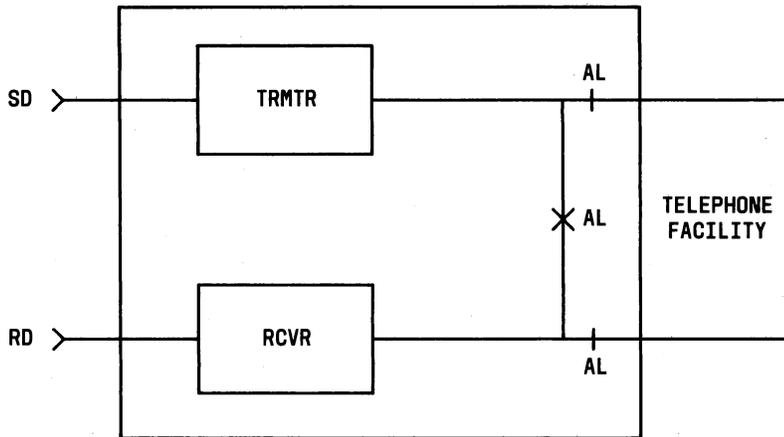

Fig. 25—Local Loopback Test
3.78 In test LL (Fig. 25) the output of the transmitter is looped to the input of the receiver through an attenuator. The data set is internally disconnected from the telephone facility interface.